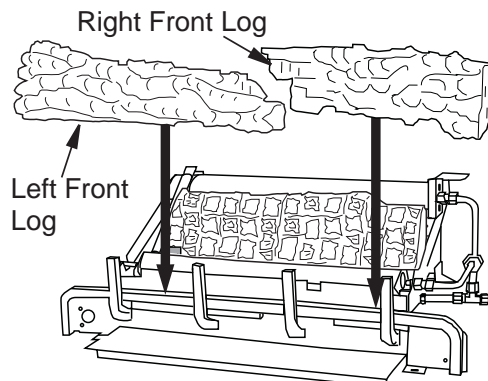

Figure 29 - Installing Left/Right Front Logs
2. Place front left and front right logs as shown in **Figure 29**.